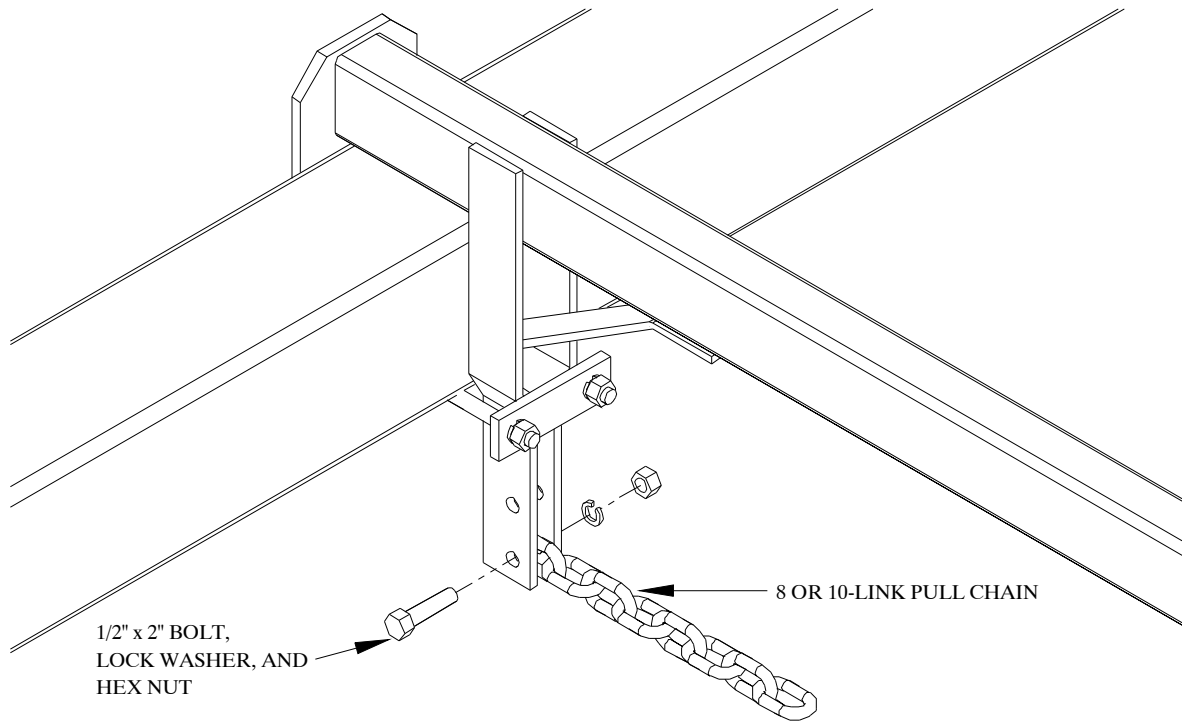

Figure 11
3. Bolt an 8 or 10-link pull chain in between each of the lift arm pull points. (10-link for 8-bar harrow sections; 8-link for all other configurations.) Use $\frac{1}{2}$ " x 2" bolts, lock washers, and hex nuts. Refer to Figure 11.